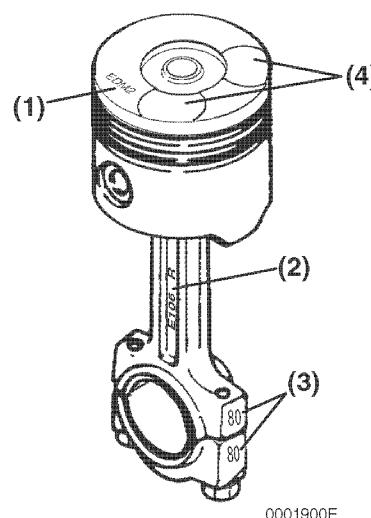

Figure 6-96
The piston and connecting rod must be installed with the correct orientation. When installed correctly, the identification mark **(Figure 6-96, (1))** stamped into the top of the piston will face the open side of the crankcase. The connecting rod match marks **(Figure 6-96, (3))** and the piston valve pockets will face the injection pump side of the engine.
5. Carefully install the piston and rod assembly. The identification marks stamped into the top of the piston **(Figure 6-96, (1))** and connecting rod beam **(Figure 6-96, (2))** will be facing the open side of the crankcase. The connecting rod match marks **(Figure 6-96, (3))** and the piston valve pockets **(Figure 6-96, (4))** will face the injection pump side of the engine.